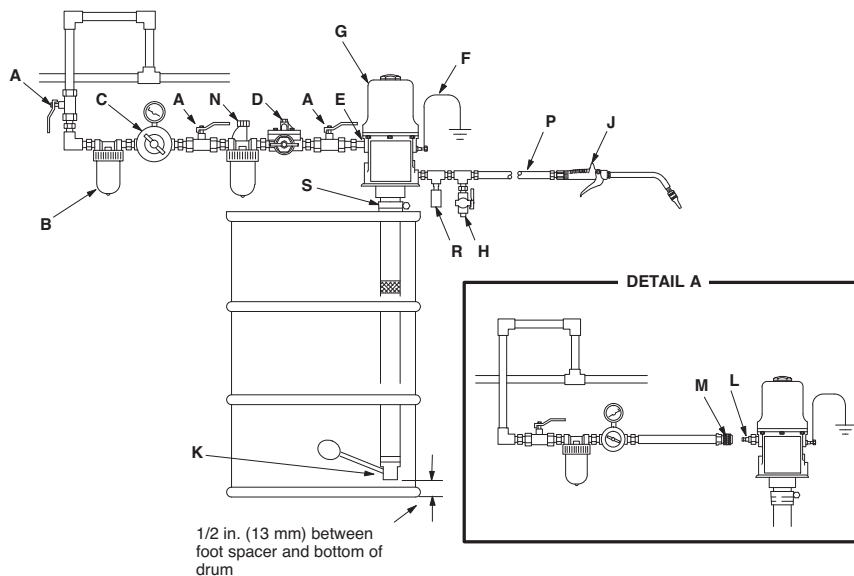

FIG. 2: Typical Installation
1. Install the pump on the drum cover so that the pump's fluid intake is 1/2 inch. (13 mm) off the bottom of the drum. (FIG. 2)
Refer to FIG. 2 for the following instructions.
NOTE: Install the air line accessories in the order shown in FIG. 2.
2. Install an air line lubricator (N) for automatic air motor lubrication.
3. Install a bleed-type master air valve (A) to relieve air trapped between the valve and the motor. As an alternative, you can install an air line quick-disconnect coupler (M) and fitting (L) to serve as an air-bleed device. See FIG. 2.
4. Install a Thermal Relief Kit (K) on the dispensing valve side of the pump.
5. Install the air regulator (C) to control pump speed and pressure.
6. Install an air line filter (B) to remove harmful dirt and contaminants from the compressed air supply. Install another bleed-type master air valve (A) to isolate the accessories for servicing.
7. Install a drain valve (H) near the pump fluid outlet.
8. Install a suitable fluid hose (P) and dispensing valve (J).